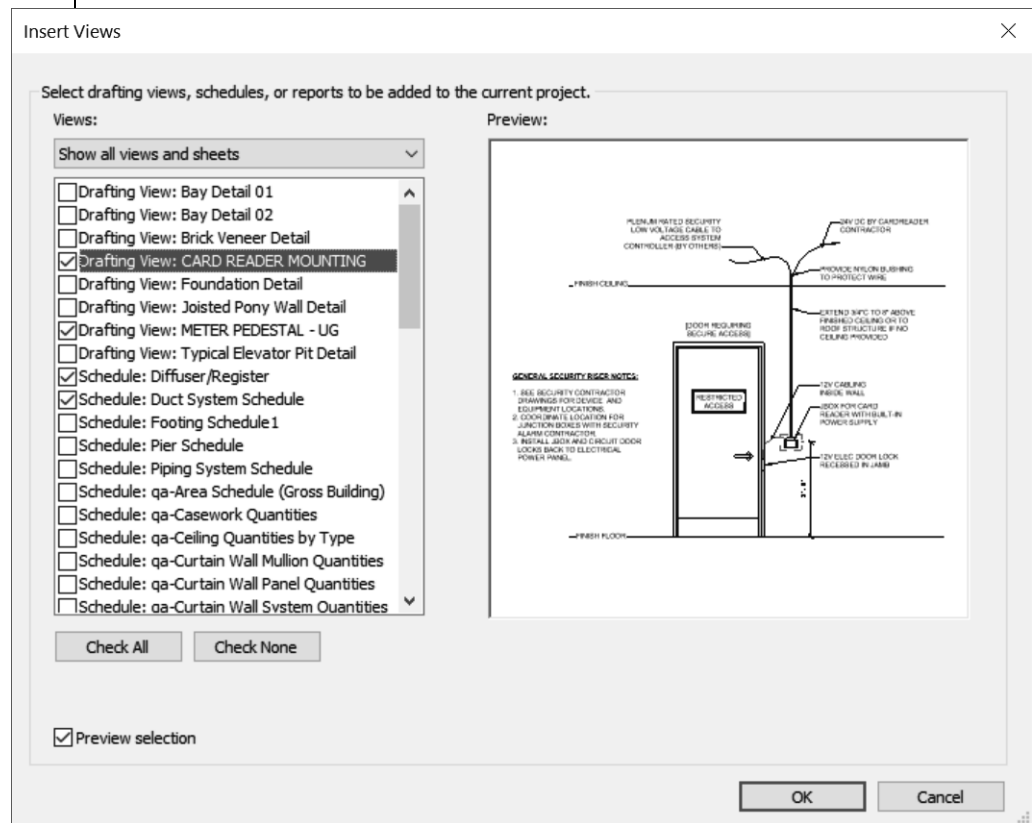

Figure 1–37
5. Select one or two drafting views and one or two schedules from the list, as shown in Figure 1–37.